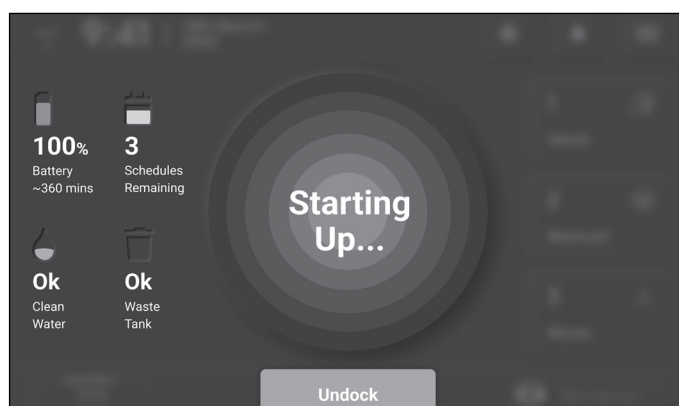

Figure 64
- When the machine has docked, the touchscreen will turn green and reflect 'Starting Up' (**Fig. 64**). This indicates that the machine has docked. However, the machine may reattempt docking if the machine fails to start charging.
- The touchscreen will turn green and reflect 'Starting Up' (**Fig. 64**). This indicates that the machine has docked. However, the machine may reattempt docking if the machine fails to start charging.